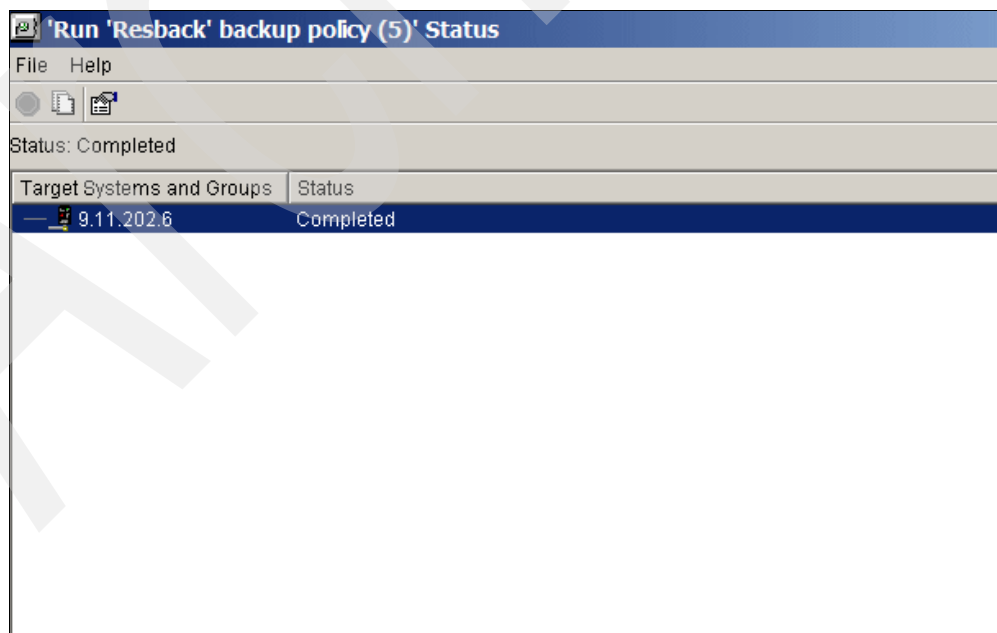

Figure 6-34 Run backup policy completed
- Next, you are presented the window showing the status of BRMS task for backup. After the task is successfully completed, the window shows completion, as can be seen in Figure 6-34.